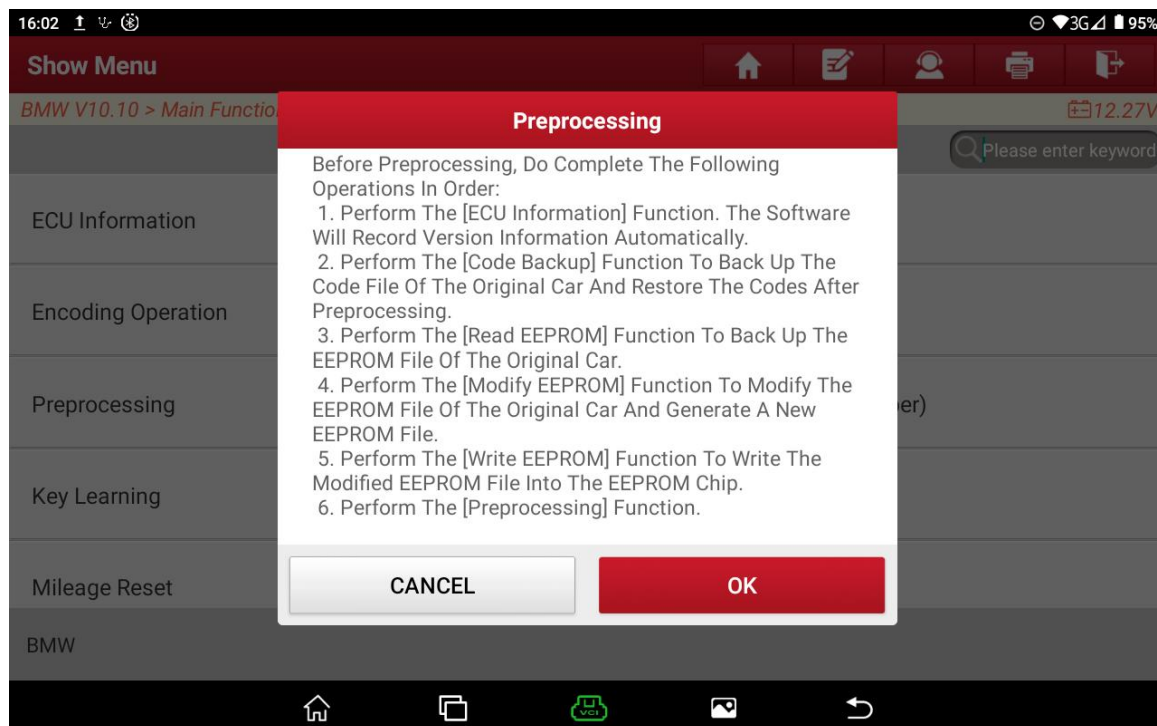

Figure 23
23. If the vehicle has been preprocessed, there is no need for preprocessing again. You can directly perform key matching and select “OK”, as shown in Figure 23.